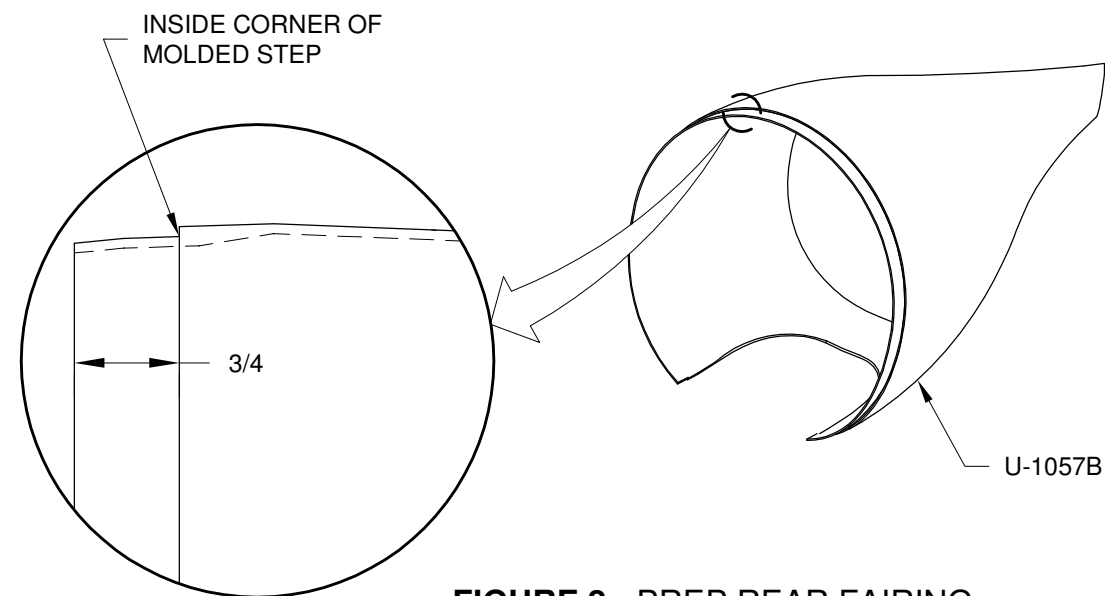

FIGURE 2: PREP REAR FAIRING
Step 2: Square up the inside corner of molded step in the U-1057B Wheel Fairing Rear as required to allow for a good fit of the fairing halves as shown in Figure 2. A coarse file works well.